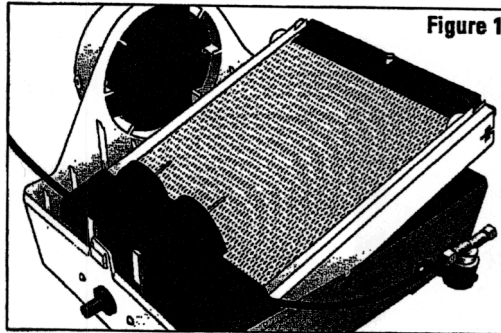

Figure 1
**1.** Remove front cover by pressing center tabs on top and bottom of the cover (1) and base (2). Pull feed tube (3) out of water distribution tray (4). Lift the Water Panel Evaporator assembly out of the base. (See Figure 1)
**2.** The unit comes assembled for left side discharge. If converting to right side discharge, the base can be rotated so round collar is facing to the right. Remove hole plug (10)